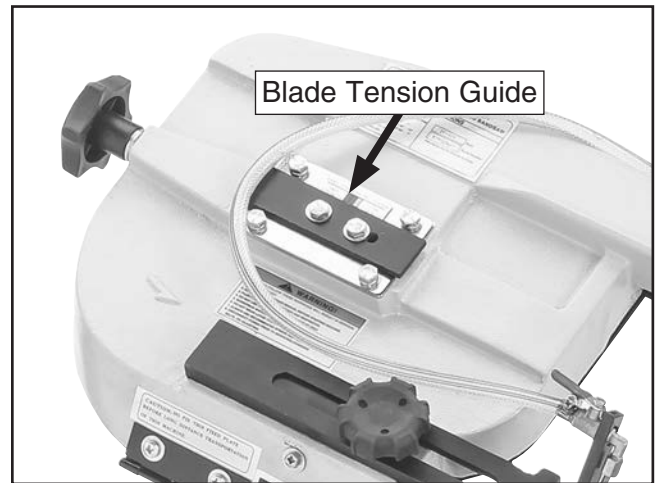

Figure 38. Location of blade tension guide.
2. Tension blade until blade tension guide indicator is in green zone (see **Figure 38**).